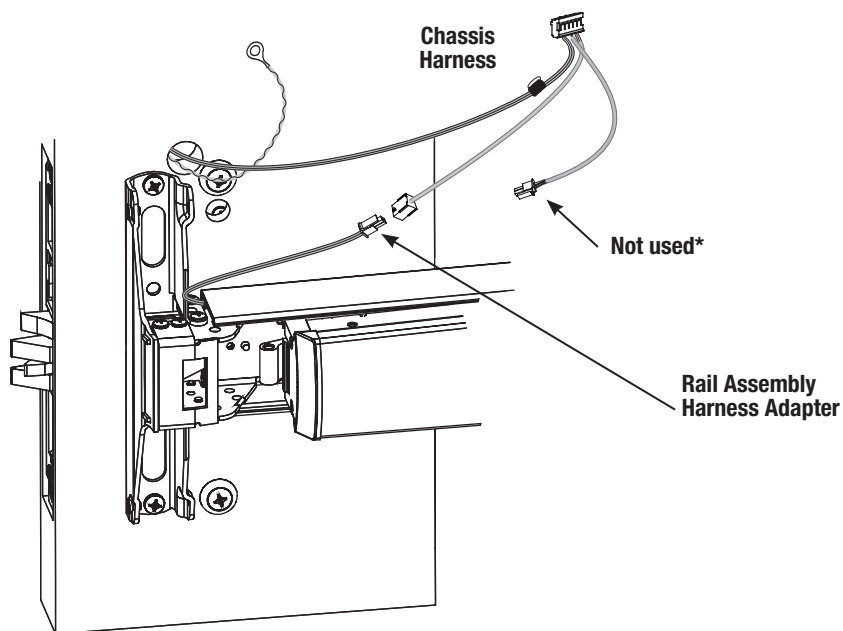

Fig. 13
- a. Connect motor harness adapter to chassis harness connector (Fig. 13).
- b. Connect rail assembly harness adapter to chassis harness connector (Fig. 13).